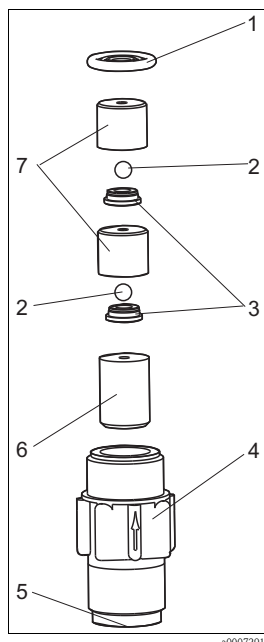

Fig. 28: Suction valve
2. Remove the molded seal (→ Fig. 28, item 1) from the pump head using a small screwdriver. If replacing the valve, continue with Point 9.
3. Press the spacer sleeve (item 6) and the valve inserts (item 7) out of the valve by guiding a suitable tool (e.g. an Allen key) through the opening of the suction connection (item 5).
4. Use the screwdriver to remove the valve seats (item 3). In doing so, let the valve balls (item 2) fall onto a piece of paper so they can be found easily again.